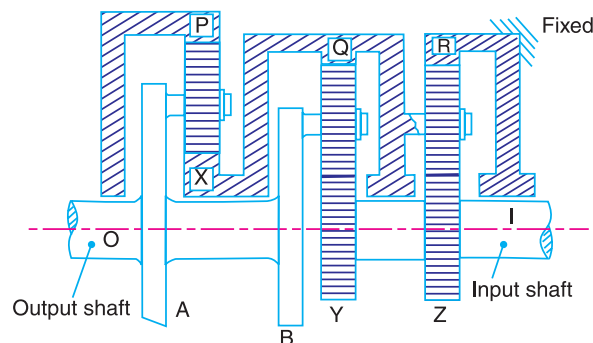

Fig. 13.30.
**Example 13.23.** Fig. 13.30 shows some details of a compound epicyclic gear drive where  $I$  is the driving or input shaft and  $O$  is the driven or output shaft which carries two arms A and B rigidly fixed to it. The arms carry planet wheels which mesh with annular wheels P and Q and the sunwheels X and Y. The sun wheel X is a part of Q. Wheels Y and Z are fixed to the shaft I. Z engages with a planet wheel carried on Q and this planet wheel engages the fixed annular wheel R. The numbers of teeth on the wheels are :